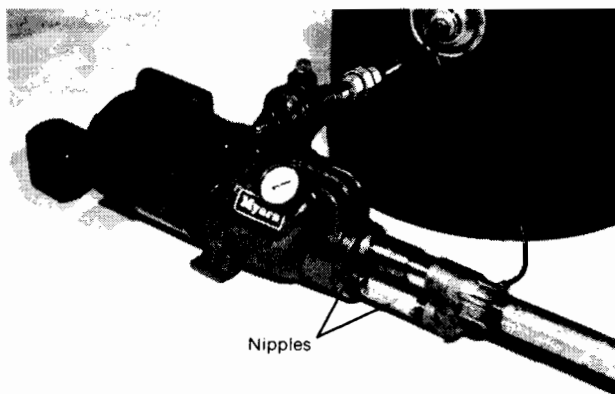

Figure 1
2. Nipples are sealed to case with rubber seal rings and clamp flange. (See Fig. 1). Use only ejector packages with Blue Labels. Do not use "B" or "C" ejectors. Use only ejectors specified for HCM.